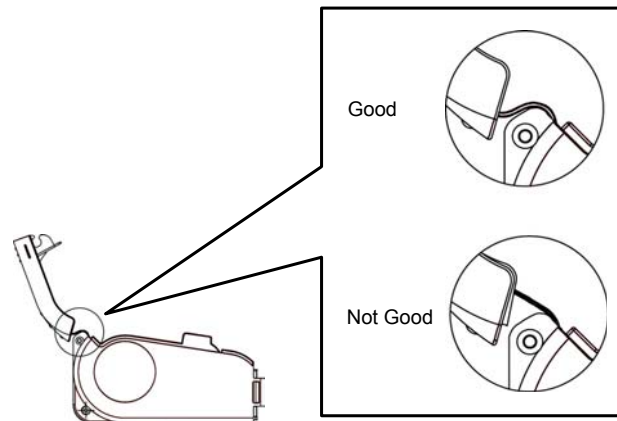

Figure 7-8d, Eye-Mark Sensor Replacement
- 9 Ensure the wiring harness has sufficient slack (Figure 7-8d).